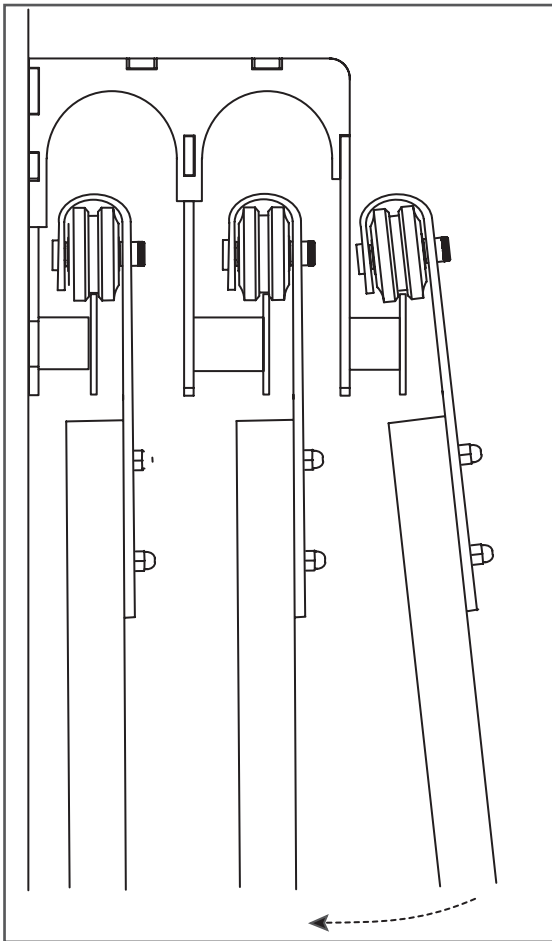

Figure 12
13. Hang the doors (Figure 12).